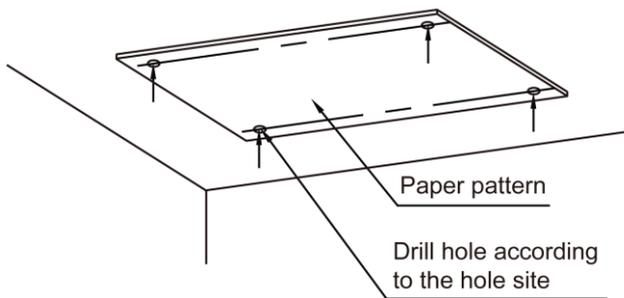
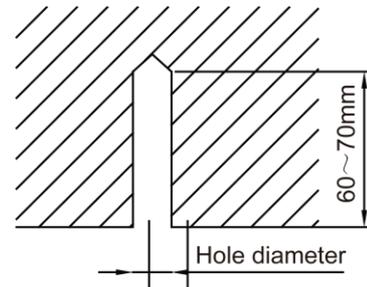

Fig 4.1.2
Fig 4.1.3
- 1) Stick the paper pattern on the installation position; drill 4 holes according to the hole site on the cardboard as shown in fig 4.1.2; diameter of drilling hole is according to the diameter of expansion bolt and the depth is 60-70mm, as shown in fig 4.1.3.